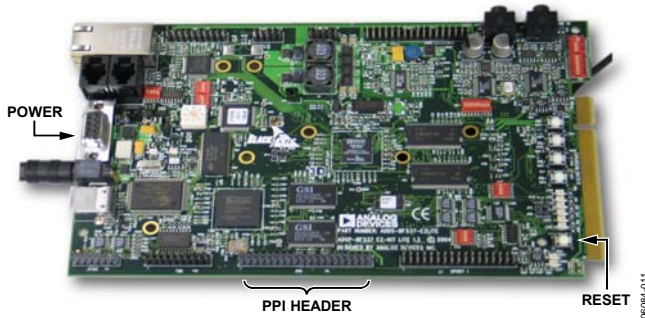

Figure 11. Powering Up the Blackfin EZ-KIT Lite Board
2. Power up the Blackfin board by inserting the power cable into the receiver as shown in Figure 11.
5. Reset the Blackfin board (use the **RESET** push button as indicated in Figure 11).
8. Connect the female connector (J13, marked "Blackfin PPI"), which is on the under side of the EVAL-AD7760/AD7762/AD7763EB evaluation board to the PPI header of the Blackfin board. The PPI port is highlighted in Figure 11.